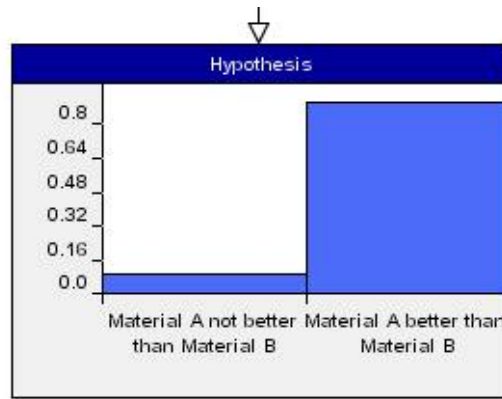

Figure 11 Risk graph of *Hypothesis* after evidence has been entered
4. Look at the risk graph for the *Hypothesis* node. It should resemble the one in Figure 11 below.